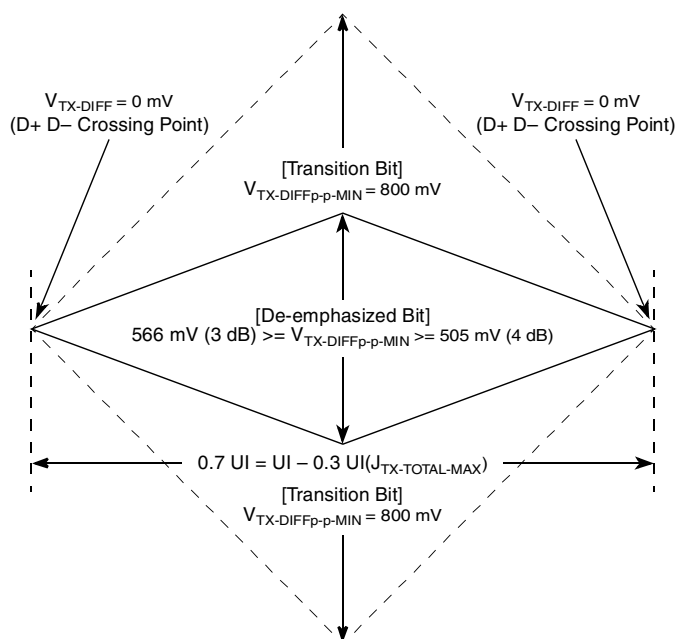
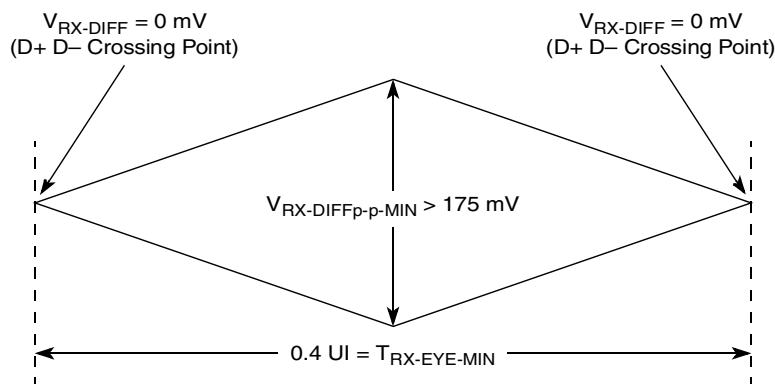
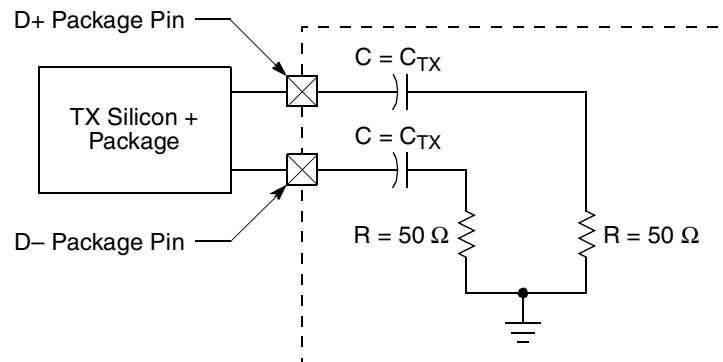

Figure 42. Minimum Transmitter Timing and Voltage Output Compliance Specifications
Figure 43. Minimum Receiver Eye Timing and Voltage Compliance Specification
Figure 44. Compliance Test/Measurement Load
- ² Specified at the measurement point into a timing and voltage compliance test load as shown in Figure 44 and measured over any 250 consecutive Tx UIs. (Also refer to the transmitter compliance eye diagram shown in Figure 42.)
- ⁴ The transmitter input impedance will result in a differential return loss greater than or equal to 12 dB and a common mode return loss greater than or equal to 6 dB over a frequency range of 50 MHz to 1.25 GHz. This input impedance requirement applies to all valid input levels. The reference impedance for return loss measurements is 50 Ω to ground for both the D+ and D– line (that is, as measured by a vector network analyzer with 50- Ω probes, see Figure 44). Note that the series capacitors, C_{TX} , is optional for the return loss measurement.
- ⁵ Measured between 20%–80% at transmitter package pins into a test load as shown in Figure 44 for both V_{TX-D+} and V_{TX-D-} .
The Tx eye diagram in Figure 42 is specified using the passive compliance/test measurement load (see Figure 44) in place of any real PCI Express interconnect + Rx component. There are two eye diagrams that must be met for the transmitter. Both diagrams must be aligned in time using the jitter median to locate the center of the eye diagram. The different eye diagrams differ in voltage depending on whether it is a
- ² Specified at the measurement point and measured over any 250 consecutive UIs. The test load in Figure 44 should be used as the Rx device when taking measurements (also refer to the receiver compliance eye diagram shown in Figure 43). If the clocks to the Rx and Tx are not derived from the same reference clock, the Tx UI recovered from 3500 consecutive UI must be used as a reference for the eye diagram.
- ⁴ The receiver input impedance will result in a differential return loss greater than or equal to 10 dB with the D+ line biased to 300 mV and the D– line biased to –300 mV and a common mode return loss greater than or equal to 6 dB (no bias required) over a frequency range of 50 MHz to 1.25 GHz. This input impedance requirement applies to all valid input levels. The reference impedance for return loss measurements for is 50 Ω to ground for both the D+ and D– line (that is, as measured by a vector network analyzer with 50- Ω probes, see Figure 44). Note that the series capacitors, C_{TX} , is optional for the return loss measurement.
The Rx eye diagram in Figure 43 is specified using the passive compliance/test measurement load (see Figure 44) in place of any real PCI Express Rx component. In general, the minimum receiver eye diagram measured with the compliance/test measurement load (see Figure 44) is larger than the minimum receiver eye diagram measured over a range of systems at the input receiver of any real PCI Express component. The degraded eye diagram at the input receiver is due to traces internal to the package as well as silicon
parasitic characteristics that cause the real PCI Express component to vary in impedance from the compliance/test measurement load. The input receiver eye diagram is implementation specific and is not specified. Rx component designer should provide additional margin to adequately compensate for the degraded minimum receiver eye diagram (shown in Figure 43) expected at the input receiver based on an adequate combination of system simulations and the return loss measured looking into the Rx package and silicon. The Rx eye diagram must be aligned in time using the jitter median to locate the center of the eye diagram.
The reference impedance for return loss measurements is 50. to ground for both the D+ and D- line (that is, as measured by a Vector Network Analyzer with 50. probes—see Figure 44). Note that the series capacitors, $C_{PEACCTX}$, are optional for the return loss measurement.
The AC timing and voltage parameters must be verified at the measurement point, as specified within 0.2 inches of the package pins, into a test/measurement load shown in Figure 44.